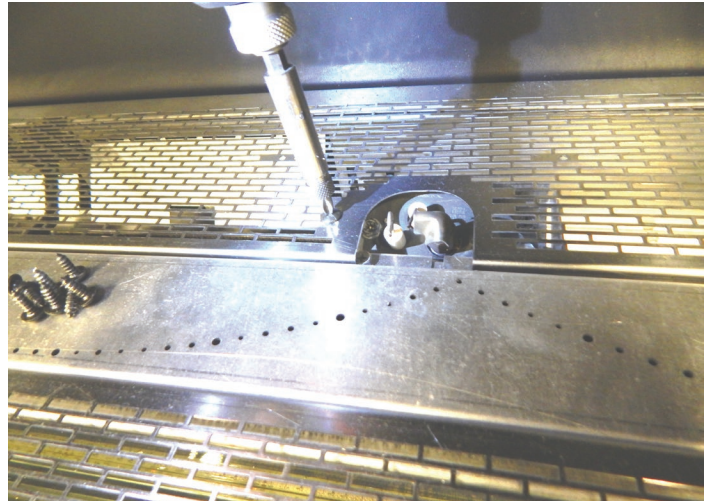

Figure 2
9. Remove (9) Phillips Truss head screws that secure the Burner Screen Cover. **See Figure 2.** Lift up the Burner Screen Cover to remove and set aside.